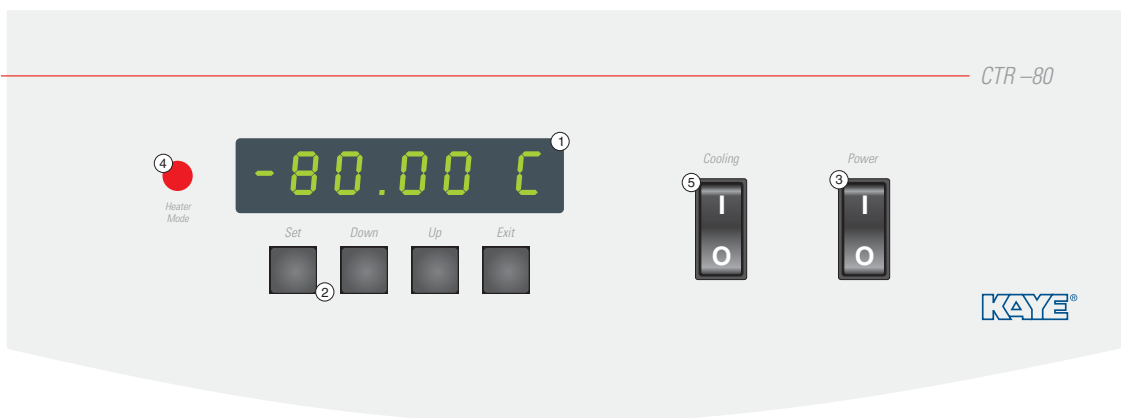

Figure 2 CTR-80 Control Panel
The following controls and indicators are present on the controller front panel (see Figure 2 below): (1) the digital LED display, (2) the control buttons, (3) the on/off power switch, (4) the heater mode light, and (5) the cooling on/off switch.